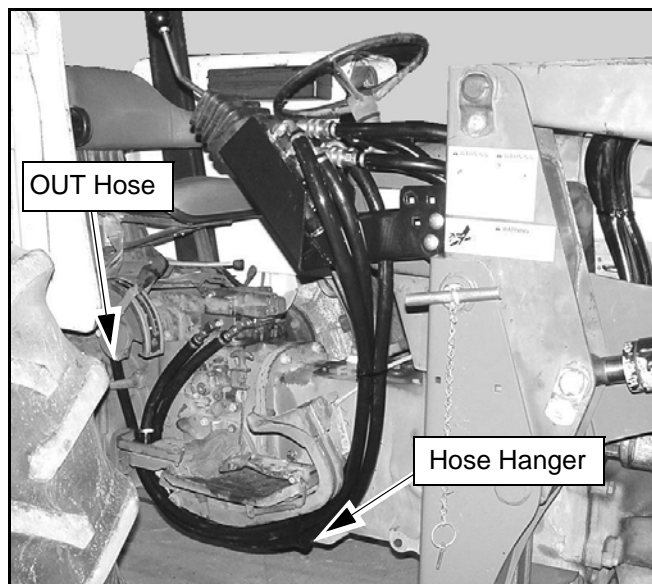
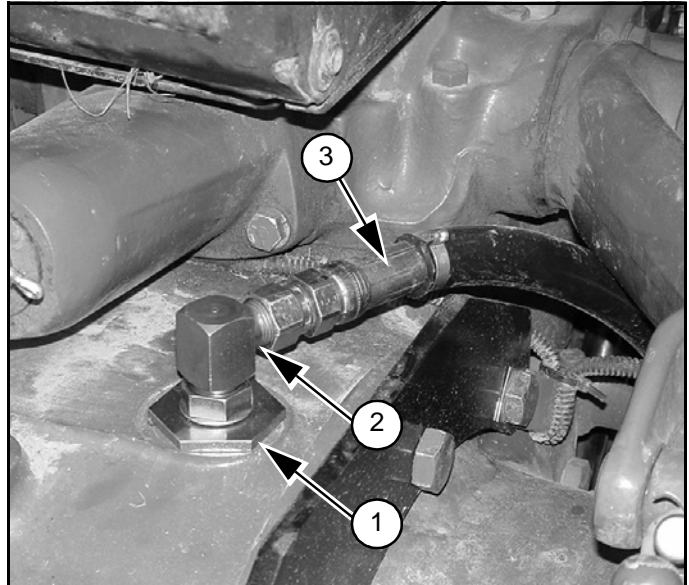

Figure 16 Hose Routing
Figure 17 OUT Hose Installation
1. Install hose hanger bracket (8) under platform between brake pedals and chassis as shown in Figure 16.
2. Secure with hex head cap screw (10), flat washers (11), and lock nut (12).
3. Route hoses through hose hanger bracket and up behind right platform as shown in Figure 17.
5. Secure hoses in hose hanger with lock pin (9).